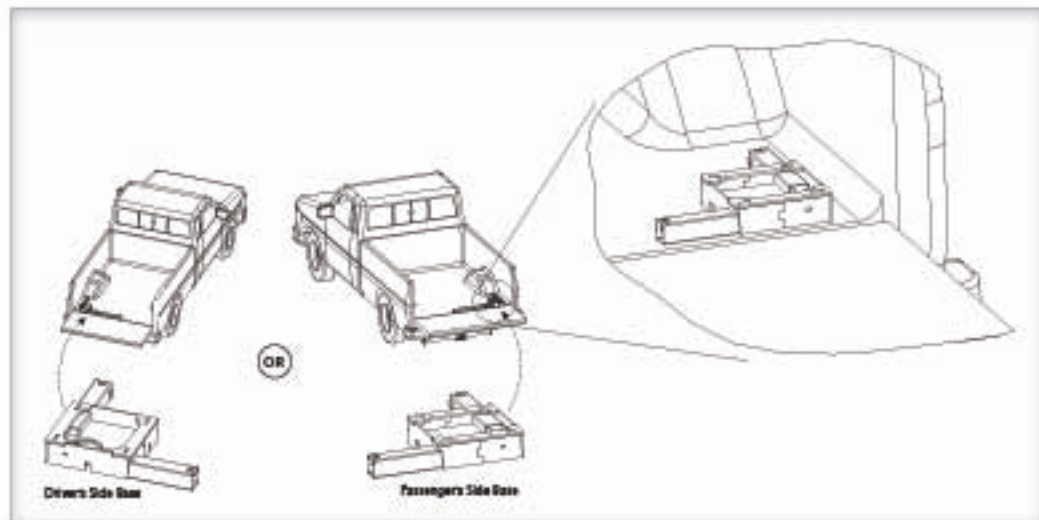

Figure 23-1
- 1. Place base in corner of truck bed.** Attempt to position as close to the corner as possible while leaving at least 1" clear around the base on all sides. [Figure 23-1]